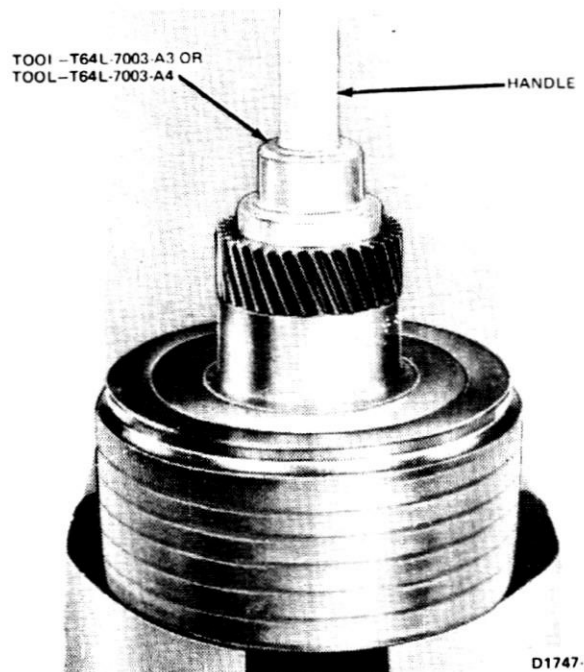

FIG. 41 Installing Rear Clutch Sun Gear Bushing
1. If the rear clutch sun gear bushing was removed, press a new bushing into the rear clutch sun gear with the tool shown in Fig. 41.